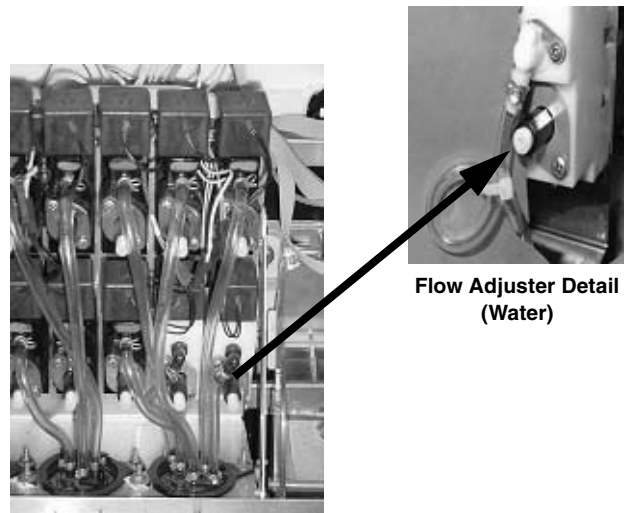

FIGURE 3. Valve with Flow Adjusters
4. If necessary, adjust the water flow control (see FIGURE 3), empty ratio cup, and repeat step 3. Otherwise empty ratio cup and repeat step 3 using the right program button for plain water.